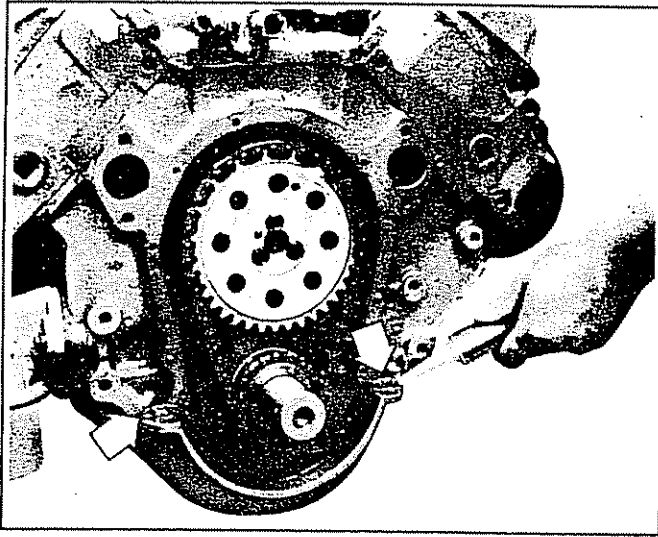

Fig. 6A2-40--Applying Front Cover Sealer
5. Apply a 1/8 inch bead of silicone rubber sealer, part #1051435 (or equivalent) to the joint formed at the oil pan and cylinder block (Fig. 6A2-40).